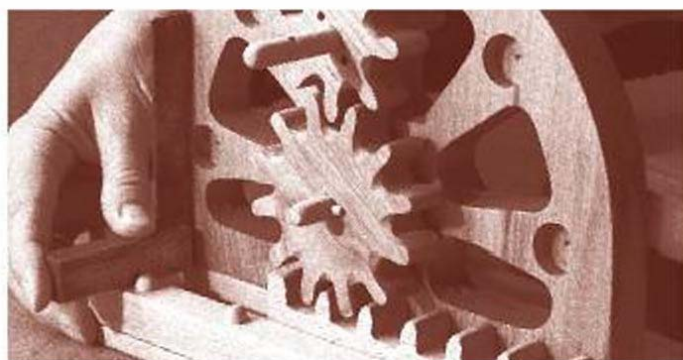

FIGURE 12-11
- 4** With the back plate square to the base (Fig 12-11) and the rack free to move in its track, glue, fit, peg and clamp the project together and let it dry.